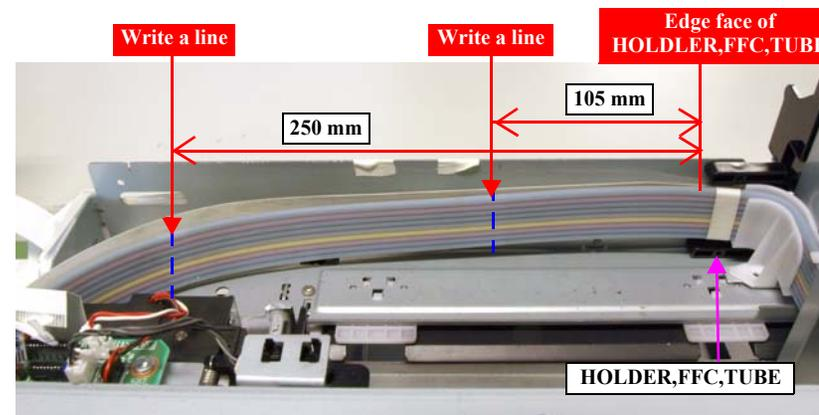

Figure 4-116. Writing a line on the Ink Tube
14. Write a line on the ink tube with a pencil at the position shown in *Figure 4-116*.